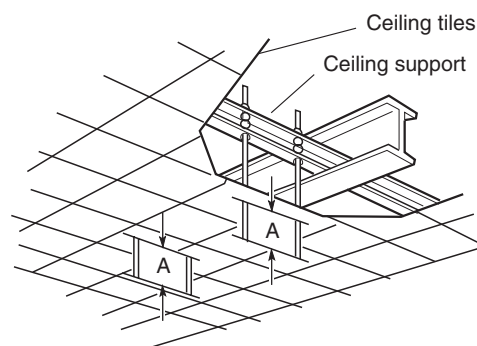
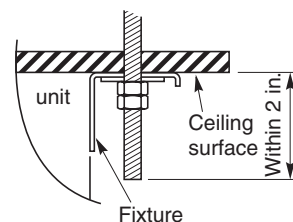

Fig. 1-52
Fig. 1-53
- (b) Use existing ceiling supports or construct a suitable support as shown in Fig. 1-52.
- (4) Screw in the suspension bolts, allowing them to protrude from the ceiling as shown in Fig. 1-52. The distance of each exposed bolt must be of equal length within 2 inches. (Fig. 1-53)